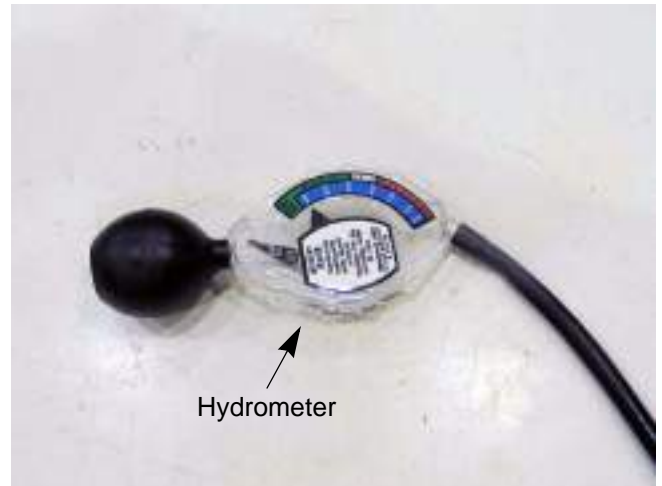

Figure 7.33
6. Hydrometer test (non-sealed batteries only) See Figure 7.33.